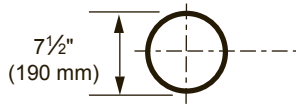

Figure 15 -
3. Attach vent pipe assembly to the stove. Set stove in front of its permanent location to insure minimum clearances. Mark the wall for a 9½" (241 mm) square hole (for noncombustible material such as masonry block or concrete, a 7½" [190 mm] diameter hole is acceptable). *Figure 15.* The center of the hole should line up with the center line of the horizontal rigid vent pipe. Cut a 9½" x 9½" (241 x 241 mm) square hole through combustible exterior wall (7½" [190 mm] diameter hole if noncombustible). Frame as necessary. *Figure 15*
3. Cut a hole in the roof using the locating hole as a center point. (Cover any exposed open vent pipes before cutting hole in roof). The 9½" x 9½" (241 x 241 mm) hole must be measured on the horizontal. Actual length may be larger depending on the pitch of the roof. There must be a 1" minimum clearance from the vent pipe to combustible materials. Frame the opening as shown in on *Page 16, Figure 15*.